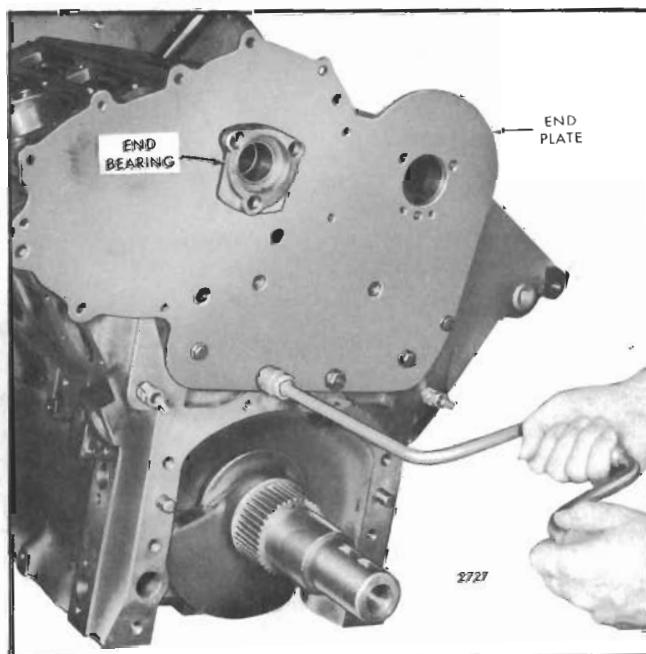

Fig. 2 - Installing Front End Plate (8V Engine)
3. Insert the right bank camshaft end bearing through the SMALL bearing bore in the end plate and into the bore of the block to accurately align the end plate with the cylinder block as shown in Fig. 2.